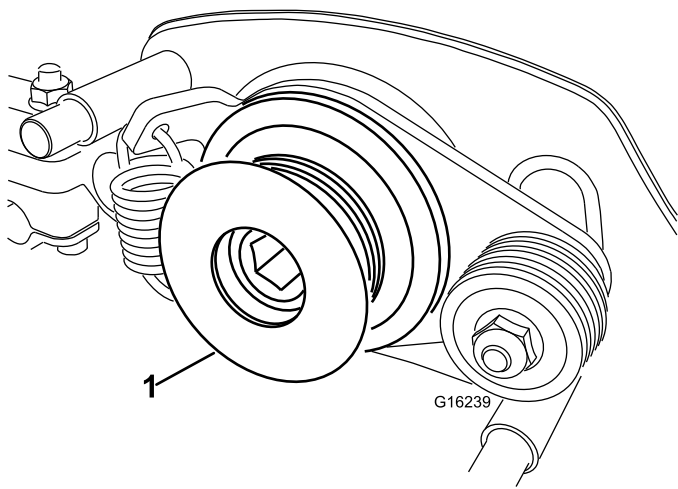

Figure 32
7. Remove the groomer drive pulley from the reel shaft (Figure 32).